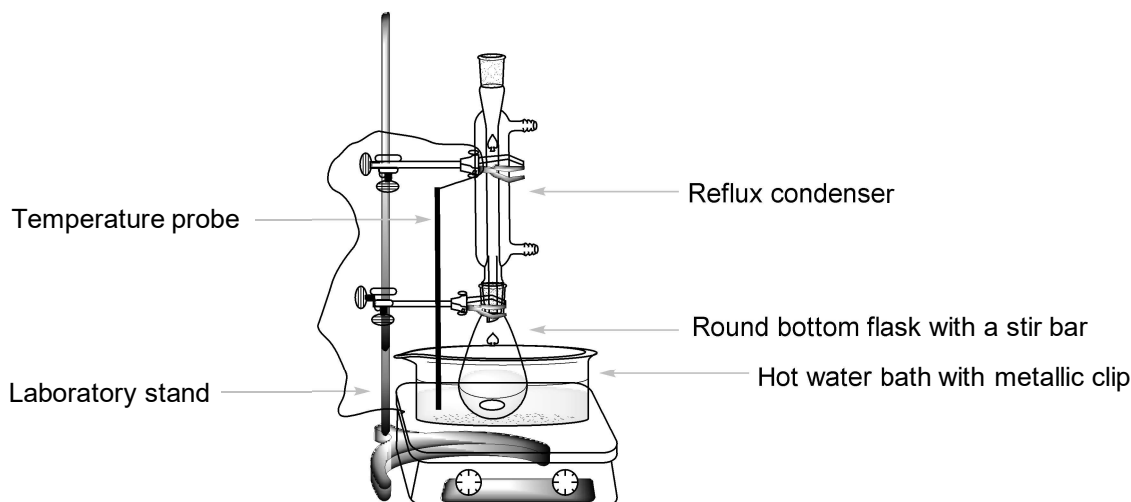

Figure 1. Setup for heating the reaction mixture in a water bath.
1. Immerse a temperature probe almost to the bottom of the water bath (containing the metallic clip), resting the wire on the upper clamp. Set the temperature to 80 °C, turn on the stirrer and adjust the speed to 540 rpm. (refer to Figure 1 given below). (Note: in case the water starts bumping reduce the speed accordingly)
3. Place the round bottom flask into the hot water bath. Attach an air reflux condenser (water connection is not needed) and secure it in the upper part by a loosely attached large clamp, as shown in Figure 1. Let compound **A** dissolve with stirring.
Figure 1). Through the top opening of the condenser, add 3 cm³ of 20% HCl using a funnel and stir the reaction mixture at 80 °C for 2 minutes. Fine orange crystals of product **C** start to form. Then turn off the heating of the hotplate stirrer. Lift the reaction flask above the water bath. (*Caution!* Touch only the clamps, the flask is hot.) Allow the reaction mixture to cool down for 15 min and then place it into a cold water bath (prepared by pouring cold tap water in a 150 cm³ beaker).